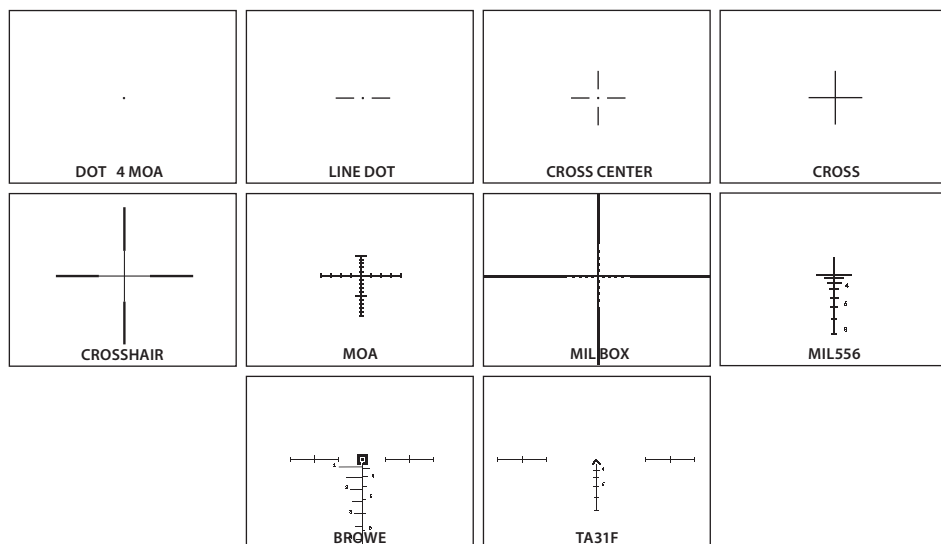

FIGURE 3-24. RETICLE PATTERNS
Hold down button (4) to select from a choice of reticle patterns (Figure 3-24).